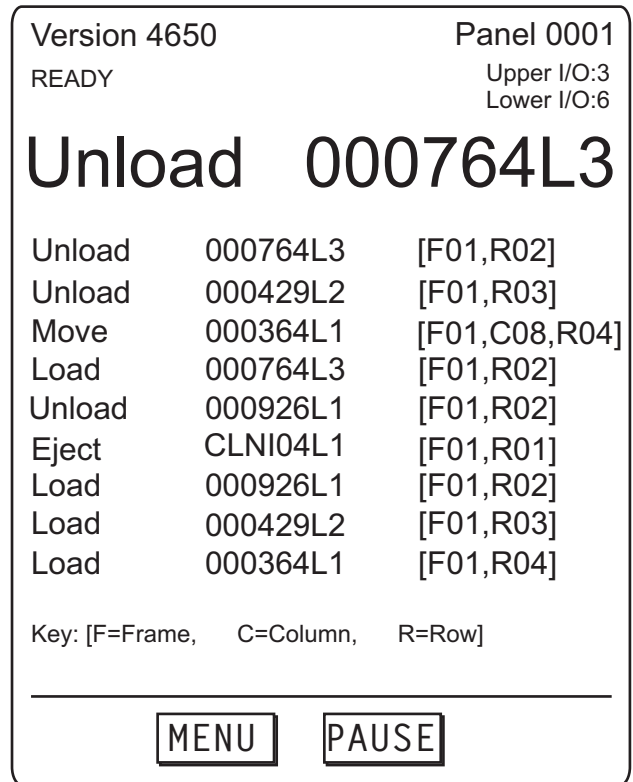

Figure 24. Activity screen on the front panel of the IBM System Storage TS3500 Tape Library. Use the screen to bulk load tape cartridges.
2. From the library’s Activity screen (see Figure 24 on page 62), press the PAUSE key. The library displays the message **If you open the door the library will go Not Ready and any remaining jobs in the work queue may fail. Press ENTER to continue.**